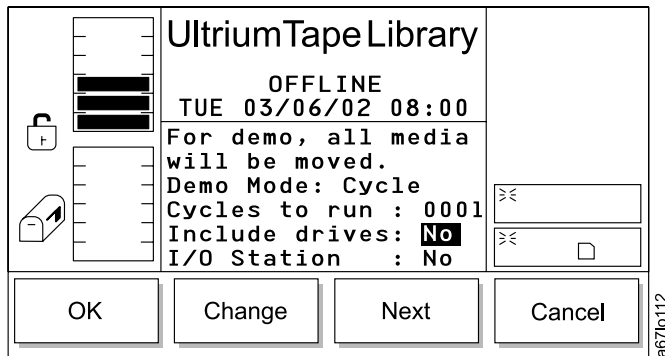

Figure 182. Include Drives Dialog
- If **Next** is selected, the next field in the list becomes the active field (see Figure 182).